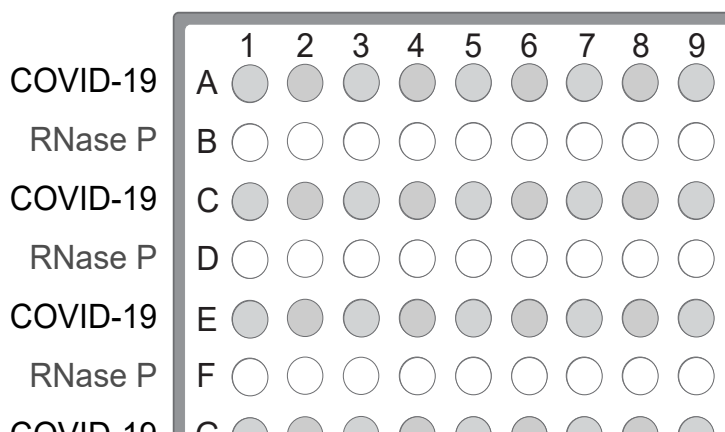

Figure 5 Assays in alternating plate rows
- Starting with row A, pipet 20.0 µL per well of the COVID-19 Reaction Mix into every other row of a MicroAmp™ Fast Optical 96-Well Reaction Plate with Barcode, 0.1 mL or a MicroAmp™ Optical 96-Well Reaction Plate with Barcode, 0.2 mL. See Figure 5 on page 63.